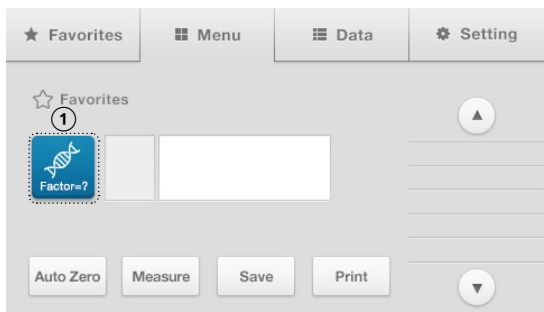
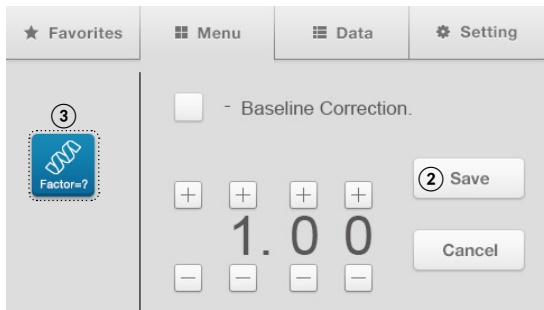

Fig. 3.4
Fig. 3.5
1. [Figure 3.4] Press the ① [Factor =?] icon on the measurement mode screen to display the [Figure 3.5] screen.
2. [Figure 3.5] Select a factor to input using the + and - buttons and press the ② [Save] button to save (0.01 ~ 99.99). If [Cancel] is pressed, the previous value will be restored. Press the ③ [Factor =?] icon on the screen after setting is complete to display the measurement screen.
2. [Figure 3.5] Select a factor to input using the + and - button and press the ② [Save] button to save (0.01 ~ 99.99). If [Cancel] is pressed, the previous value will be restored. Press the ③ [Factor =?] icon on the screen after setting is complete to display the measurement screen.